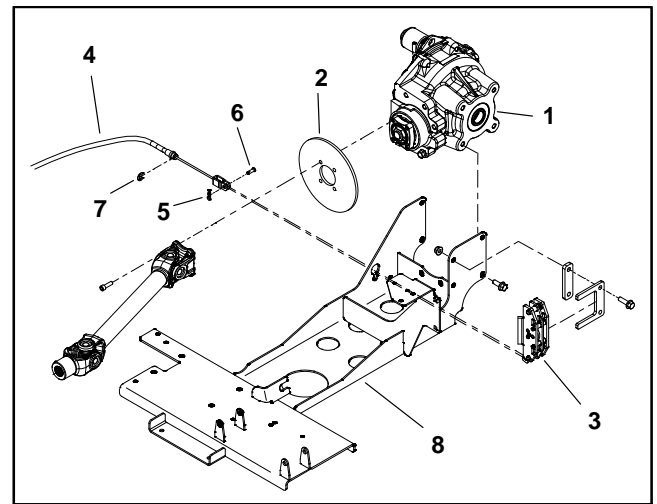

Figure 15
4. Disconnect parking brake cable from parking brake caliper at rear differential (Fig. 15):
5. Remove retaining ring (item 14) that secures brake cable to lever support assembly.
6. Remove hair pin (item 11), flat washer (item 10) and clevis pin (item 12) that secure parking brake cable end to brake lever and lever support.
3. Connect parking brake cable to parking brake caliper at rear differential (Fig. 15 and 16).